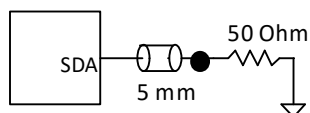
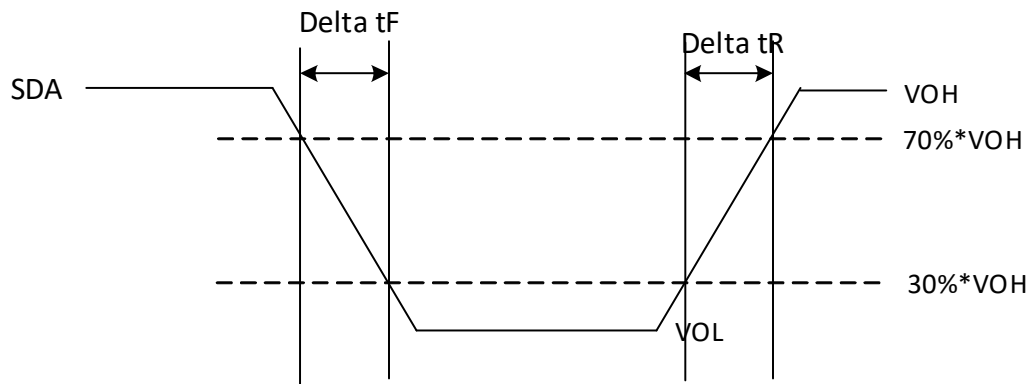

Figure 4 — Output Slew Rate and Output Timing Reference Load
Figure 5 — Output Slew Rate Measurement Points
NOTE 3 Output slew rate is guaranteed by design and/or characterization. The output slew rate reference load is shown in Figure 4 and Figure 5 shows the timing measurement points. For slew rate measurement, the VOH level shown in Figure 5 is a function of Ron value; VOH = {1.0/(Ron + 50)} \* 50.
- NOTE 8 This timing parameter is guaranteed into output timing reference load as shown in Figure 4.